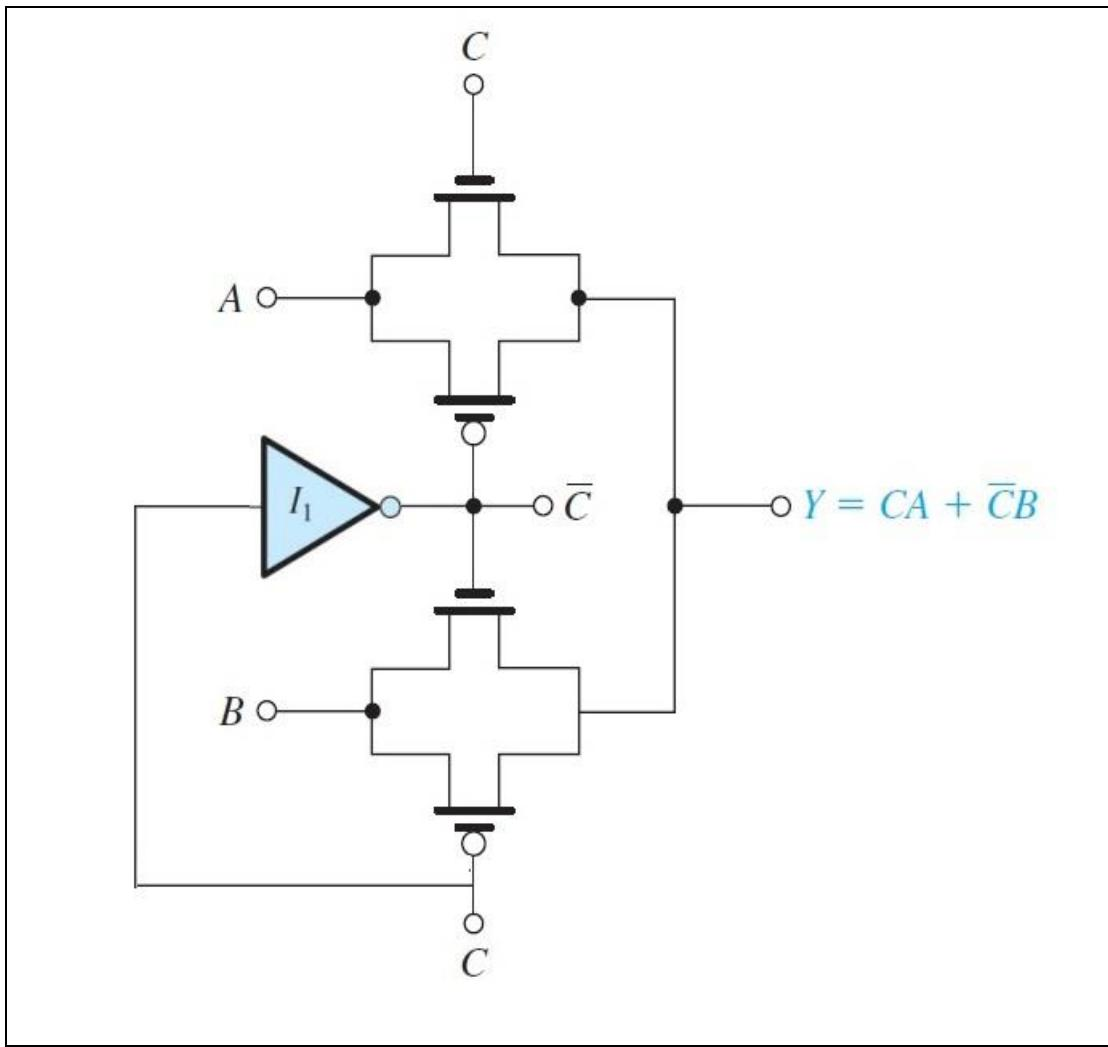

Figure 6: Realization of 2-to-1 multiplexer using CMOS transmission gates
2. For the implementation of 2-to-1 multiplexer using CMOS transmission gates connect the circuit as shown in Figure 6. One inverter is required to generate the complement of C. Note down the observed values in Table 2.